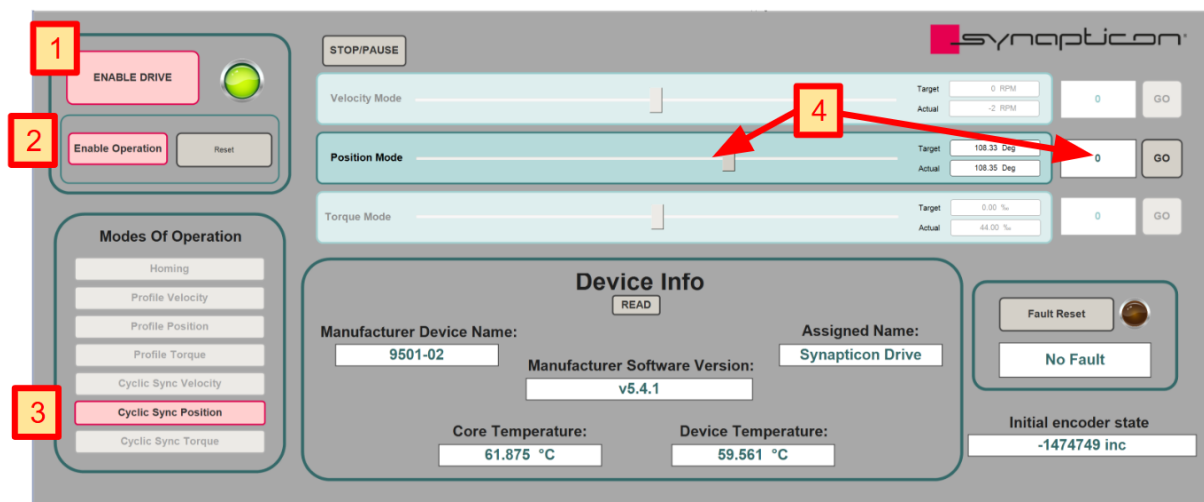

Figure 5.32 - Controlling the drive in cyclic sync position mode
5. Press the “GO” button. For clarification, refer to Figure 5.32.